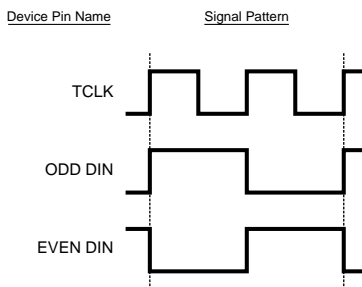
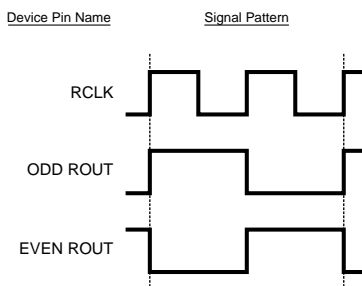
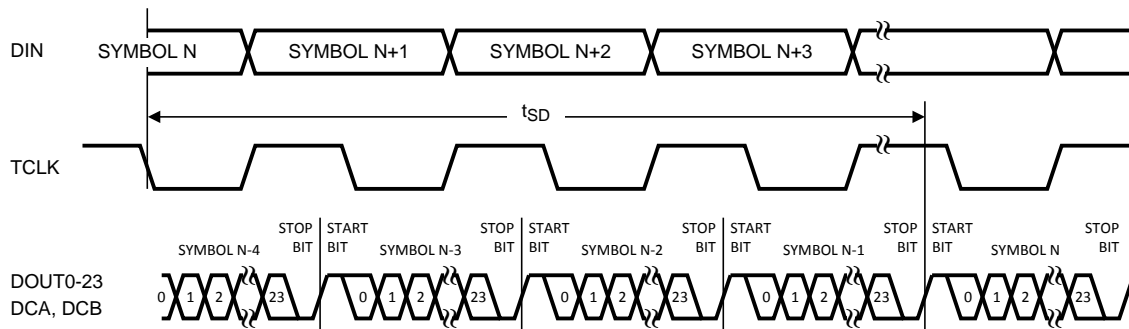

Figure 1. Serializer Input Checker-board Pattern
Figure 2. Deserializer Output Checker-board Pattern
Figure 8. Serializer Delay
(5) Digital, PLL, and Analog VDDs
(6) Figure 1, Figure 2, Figure 8, Figure 12, Figure 14 show a falling edge data strobe (TCLK IN/RCLK OUT).
(1) Specification is guaranteed by characterization and is not tested in production.
(2) When the Serializer output is at TRI-STATE, the Deserializer will lose PLL lock. Resynchronization MUST occur before data transfer.
(3) Figure 1, Figure 2, Figure 8, Figure 12, Figure 14 show a falling edge data strobe (TCLK IN/RCLK OUT).
(5) UI – Unit Interval, equivalent to one ideal serialized data bit width. The UI scales with frequency.